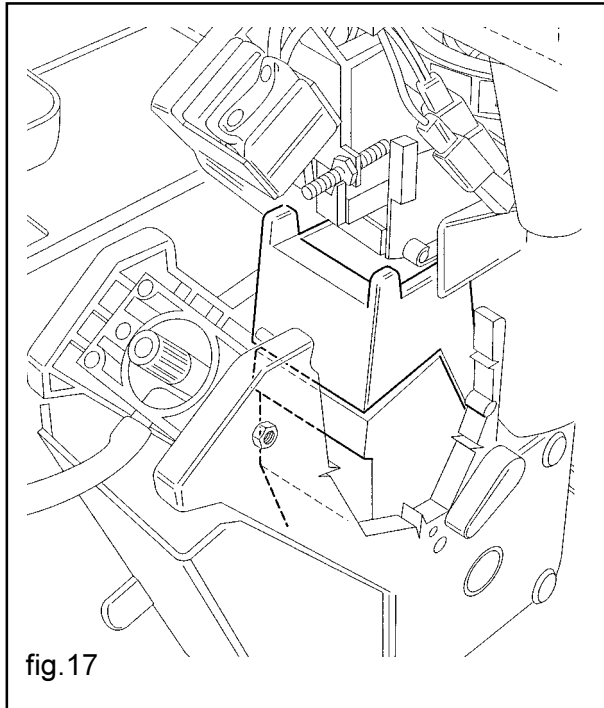

fig.17
- The coffee unit gear motor is activated again so as to return to the standby position; during this movement the coffee grounds are expelled (fig.17).